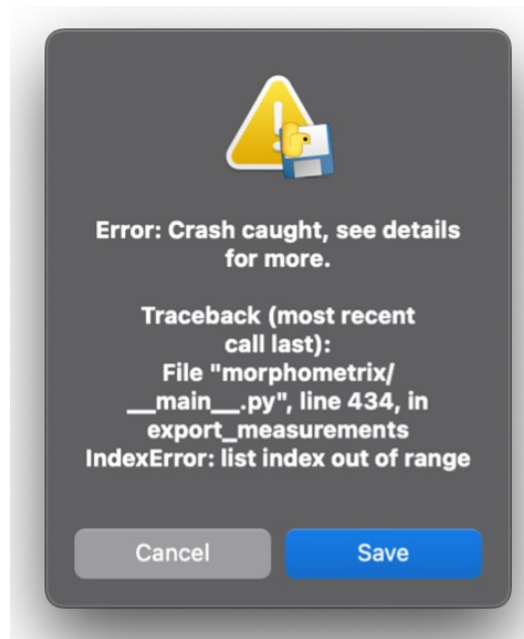

Figure 15. Crash report. Save the crash report text file to easily share with MorphoMetriX Team.
- If MorphoMetriX crashes, a window should appear to save the crash report error code (Figure 15).